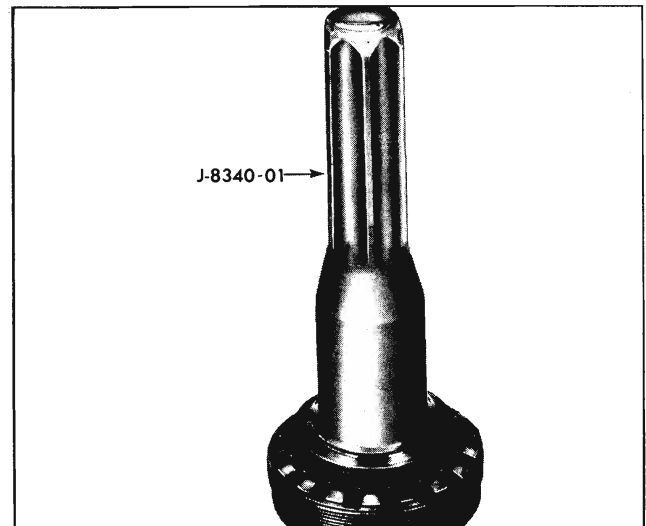

Fig. 4-56 Tool Positioned to Install Front Oil Seal (Automatic only)
2. Apply uniform bead of sealer and replace front oil seal (automatic transmission only) using tool J-8340 (Fig. 4-56).